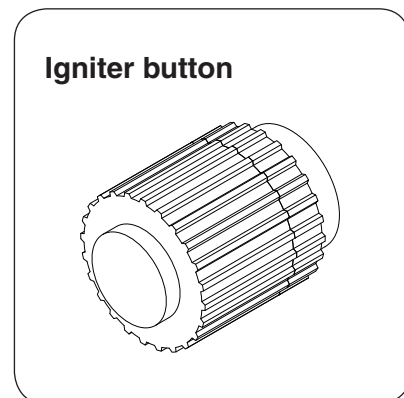

Fig. 21-1
- 3. Press and hold the electronic igniter button (see Fig. 21-1). The igniter will begin to spark with a rapid clicking sound.